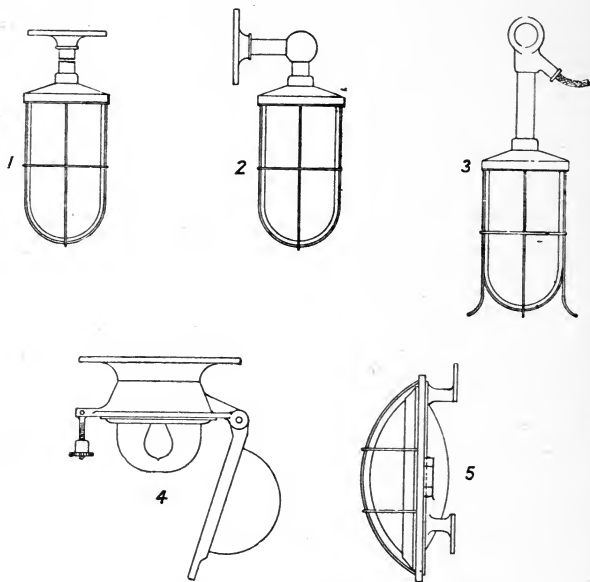

FIG. 27.—TYPES OF WATERTIGHT FITTING.
The third class of fitting, viz. the watertight pattern, is represented by four distinct types (see Fig. 27).
(1) This fitting is used in the machinery spaces, crew's quarters, stores, etc. The pendant fitting is made with a separate back plate and a short stem for ordinary use which is screwed into the fitting portion. The fitting can be made with a stem (usually $\frac{1}{2}$ inch gas barrel) of any required length to suit a particular situation. Similarly, the brackets can be made for any desired projection or drop. Short fixed brackets with knuckle joints are used where a small projection is desired (see (2) Fig. 27).
(3) The watertight portable hand lamp, which is used in the machinery spaces, storerooms, etc.